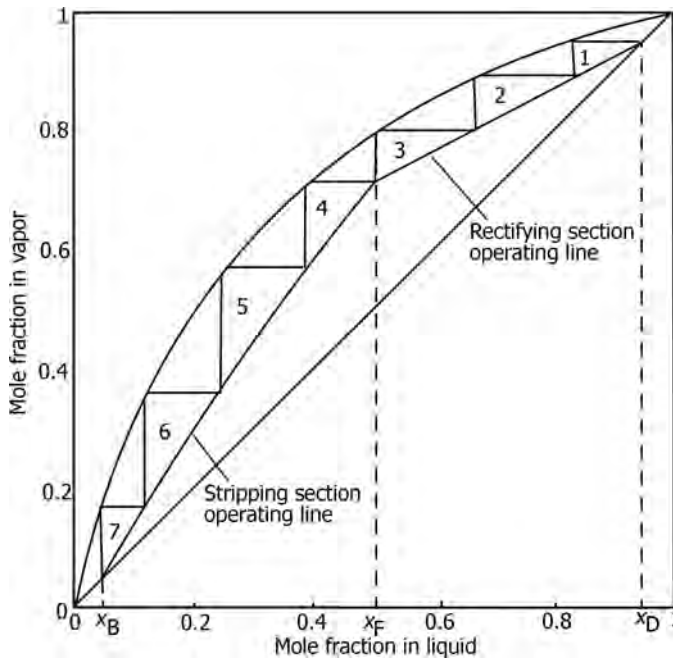

FIGURE 17.17 McCabe-Thiele construction for number of theoretical trays.
- Figure 17.17 demonstrates McCabe–Thiele graphical procedure showing three theoretical trays in rectifying section and four theoretical trays in stripping section.